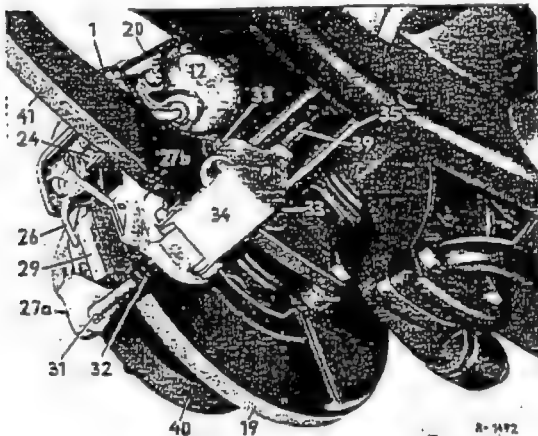

Fig. 42-25/1
1. Unscrew the bracket (35) of the brake cable (39) from the lever (41) of the brake support (Fig. 42-25/1).
2. Detach the leg spring (26) from the fitting plate of the friction pad (29) (Fig. 42-25/1).